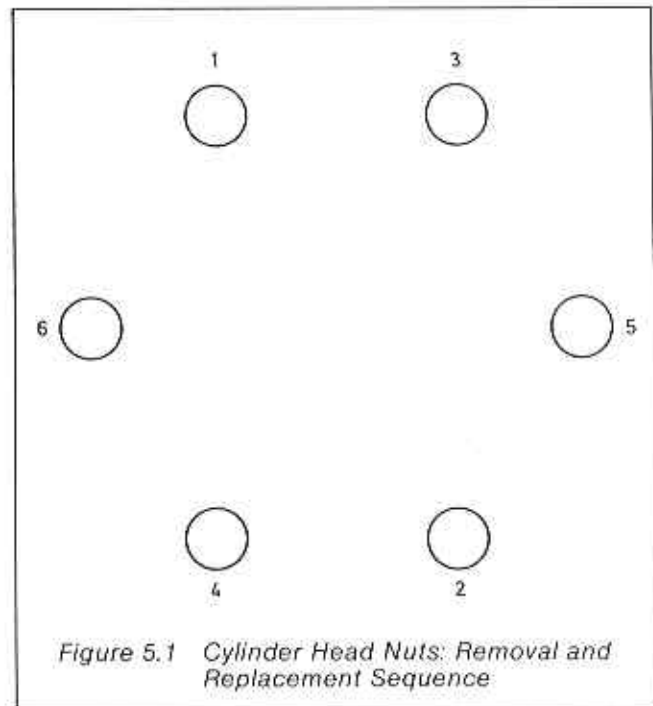

Figure 5.1 Cylinder Head Nuts: Removal and Replacement Sequence
- (1) Fit a new cylinder head gasket ensuring that the face marked TOP is uppermost. If the gasket is not marked the metal fold should face uppermost. Lower the cylinder head over the studs into position. Locate the exhaust port heat shield.
- (2) Fit the cylinder head nuts and tighten finger-tight. On multi-cylinder engines, ensure that the manifold bolting faces are parallel with each other. Check with a straight edge as shown in Part 1, Section 5, or by bolting on a manifold.
- (3) With reference to Figure 5.1 tighten each nut a quarter of a turn at a time in the sequence shown. Each nut must be finally tightened to a torque loading of 84 Nm (62 lbf ft.).
- (4) Lightly lubricate the push rods with engine oil and fit in the positions noted in Paragraph 5.3 (8).
- (5) Fit the push rod cover and gasket.
- (6) Fit the valve caps.
- (7) Fit the rocker support and secure using the two self-locking nuts.
- (8) Connect the rocker lubrication oil feed pipe.
- (9) Fit the fuel injector (Section 3).
- (10) Fit the inlet and exhaust manifold.